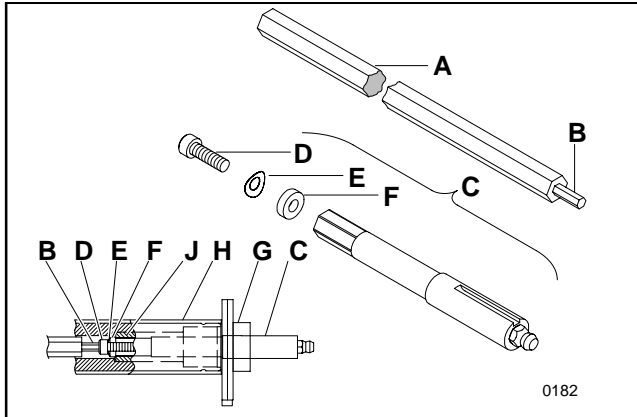
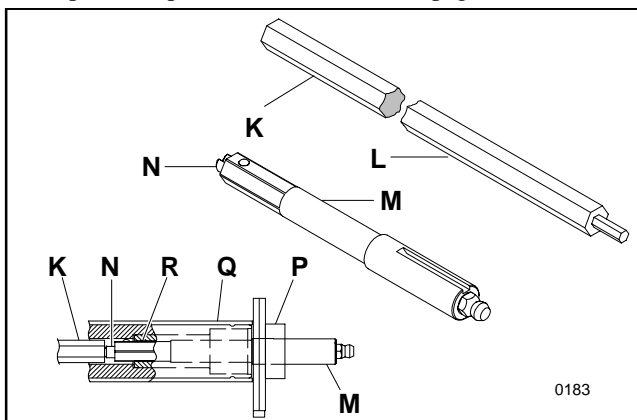

Figure 24: Type 1 for 2 to 12\"
Figure 25: Type 2 for 15 to 25\"
Removal of the outboard drive shaft (C of Figure 24 and M of Figure 25) requires use of Dorner hex key wrench extension tool (A of Figure 24 and L of Figure 25).
1. Insert the small end (B of Figure 24) of hex key wrench extension tool (A) into the spindle (H) end opposite the outboard drive shaft assembly (C) and remove special spindle screw (D) and washers (E and F).
2. Pull the outboard drive shaft assembly (C) out from the outboard bearing retaining sleeve (G).
- Remove the outboard drive shaft assembly (M of Figure 25) by inserting the blunt end (K) of the hex key wrench extension tool (L) into the spindle (Q) end opposite the outboard drive shaft assembly (M).
- While pushing in the spring loaded plunger (N) with the hex key wrench extension tool (L), pull out the outboard drive shaft assembly (M).
For outboard drive shaft assembly (C of Figure 24 and M of Figure 25) installation, the spindle (H of Figure 24 and Q of Figure 25) may have to be turned around in the conveyor frame. The hex bore (J of Figure 24 and R of Figure 25) is off center on spindles for conveyors measuring 5\" (127 mm) and wider. If necessary, remove the spindle following the "Spindle Removal Procedure" on page 16, turn it around, and replace it following the "Spindle Replacement Procedure" on page 17.
Install the outboard bearing retaining sleeve in the desired drive location. Be sure the spindle hex bore (J of Figure 24 and R of Figure 25) is properly located as indicated in the previous chart.
- Push the outboard drive shaft assembly (C of Figure 24) into the outboard bearing retaining sleeve (G).
- Place the curved spring washer (E), then the flat hard washer (F) onto the special spindle screw (D). Turn the screw/washer set into the outboard drive shaft assembly (C) using the small end (B) of hex key wrench extension tool (A). Tighten the screw until it is just seated in the shaft [20 in/lb (2.26 Nm) maximum] which fully compresses the spring washer. Then, back off the screw 1/2 turn (180°).
- Insert the blunt end (K of Figure 25) of the hex key wrench extension tool (L) into the end of the spindle (Q) opposite the outboard bearing retaining sleeve (P).
- Exert inward pressure on the hex key wrench extension tool (L) to release the spring loaded plunger (N), at the same time push inward on the outboard drive shaft assembly (M) until it is fully seated.
- The hex key wrench extension tool (L) may now be removed. Make sure outboard drive shaft assembly (M) is locked in position by pulling outward on the assembly.